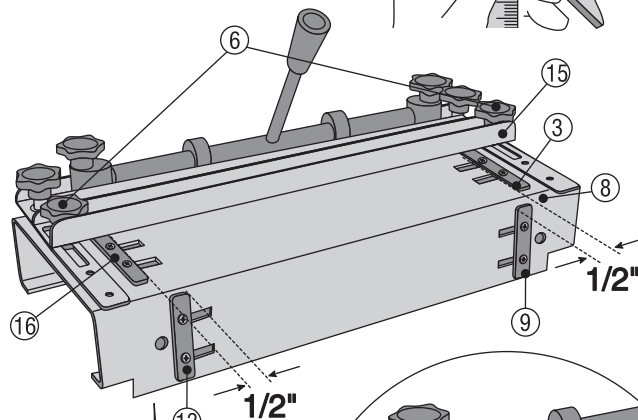

Fig. 3
- Slide the comb ⑦ to the front most position, with the front edge parallel to that of the jig's main body, fix the comb with the comb adjustment knobs ⑤. Insert a test piece of wood on the top of the jig. Make sure the side edge of the wood piece is parallel to that of the jig's main body ⑧. Align the side edge of the wood piece with the left side edge of the comb finger in same vertical plane and then clamp the work piece firmly with the top eccentric bar clamp ①. Loosen the back stop adjustment knobs ⑥ if necessary to gain access to the side stop screws. With the side stop tightly rest against the edge of the wood piece, fix the side stop position by tightening side stop fixing screws.
- Remove the comb by loosening the comb fixing screws ⑭, remove also the front clamp ⑩ by the loosening the clamp adjustment knobs ⑪.
- Offset the front side stop by 1/2 inch (if the supplied comb is used) to the top side stop as shown in Fig 3. The top and front side stop shall be perpendicular to each other. Fix the front side stop in position by tightening the screws. If the width of the wooden board to be cut exceeds 11", remove the front side stop on the other end.